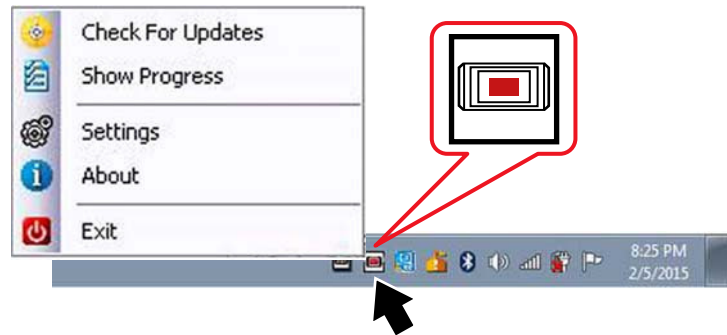

Figure 16-3 ShopStream Update Tool icon and menu
1. Select the SST icon in the Windows taskbar notification area to open the menu (Figure 16-3).